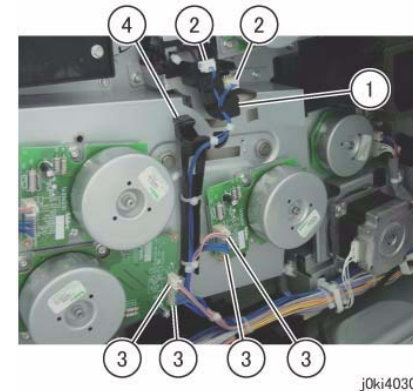

Figure 2 Move the Harness Holder
9. Move the Harness Holder. (Figure 2)